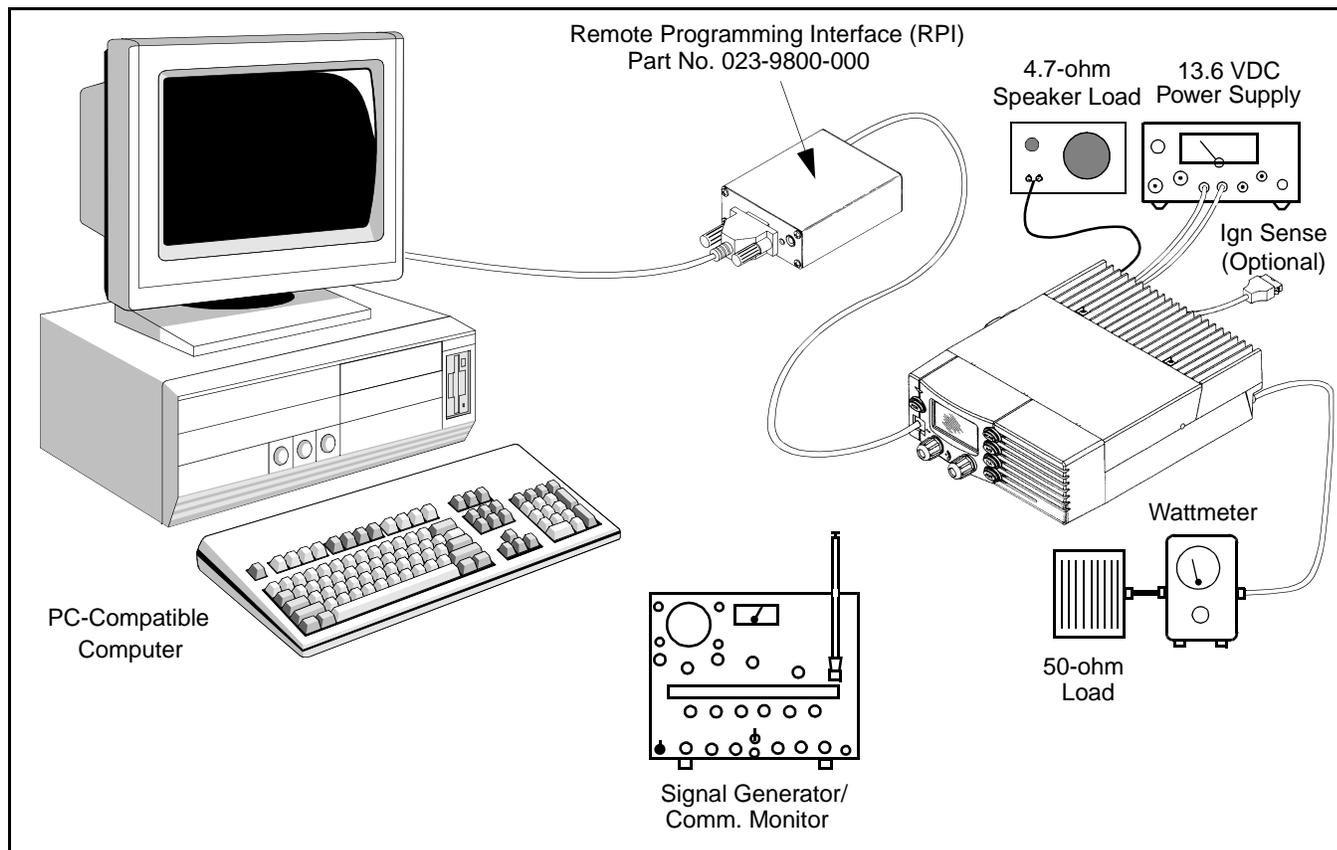

Figure 4-1 Alignment Setup
Connect the test setup shown in Figure 4-1. Additional information follows on equipment in this setup.
- Connect a wattmeter and 50-ohm load to the antenna jack as shown in Figure 4-1. Manually or automatically select “Tx Power” and follow the on-screen instructions.